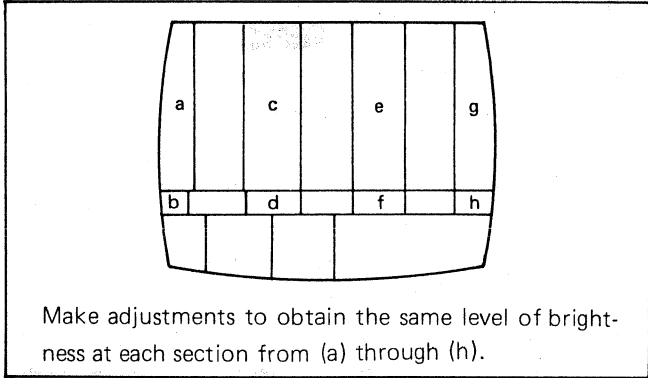

Fig. 27
5. Adjust Preset chroma (R5802) so that the luminance at SMPTE colour bar pattern (on the displayed becomes Fig. 27.